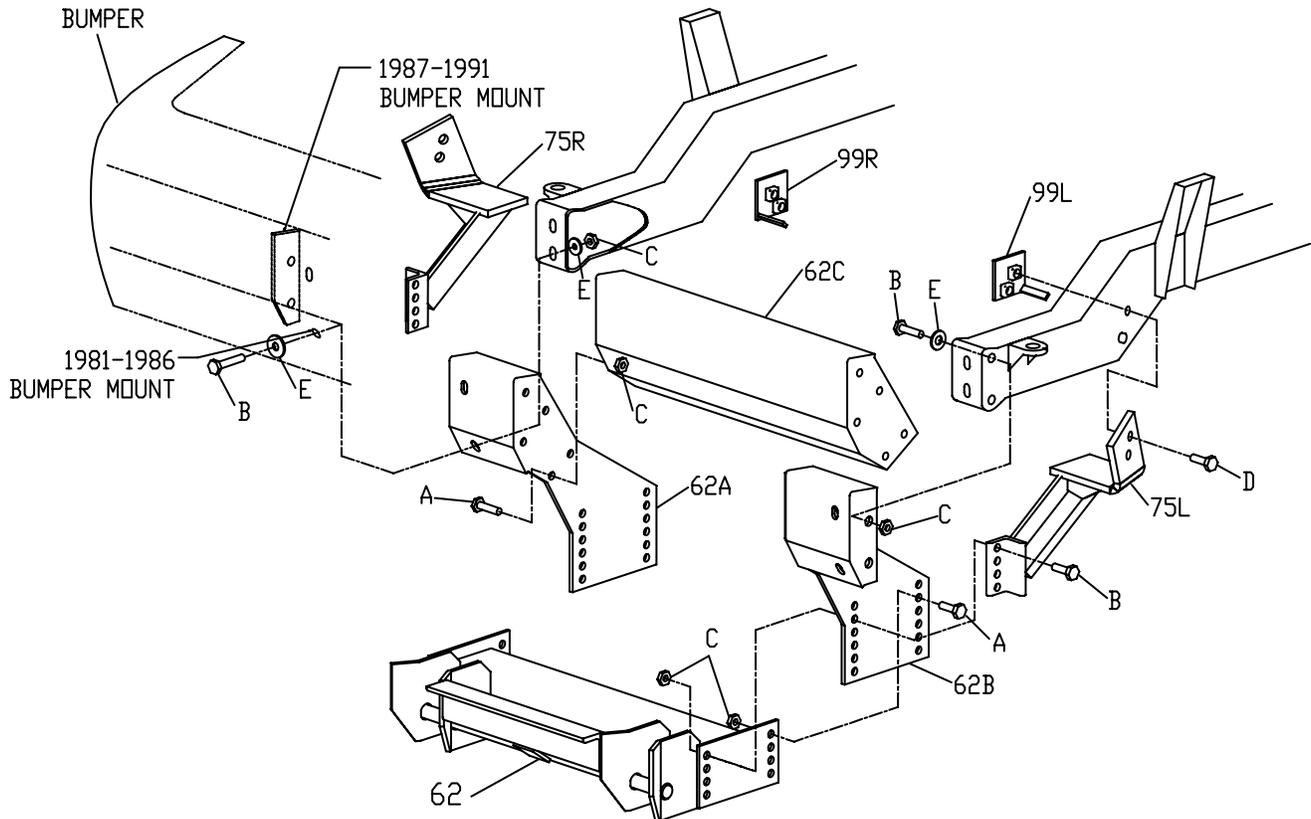

Figure 1
2. Position the PUSH BEAM SUPPORT PLATES (Ref. 62A and 62B, Fig. 1) on the frame horn.
Insert a ½" – 13 x 2" HEX HEAD BOLT with ½" FLAT WASHER through the lower front hole of the PUSH BEAM SUPPORT PLATE and frame. Install a ½" FLAT WASHER and ½" – 13 HEX HEAD SELF LOCKING NUT. Repeat using the left hand PUSH BEAM SUPPORT PLATE (Ref. 62B, Fig. 1). Position the bumper over the outside of the PUSH BEAM SUPPORT PLATES. With a ½" – 13 x 2" HEX HEAD BOLT, ½" FLAT WASHER, and ½" – 13 HEX HEAD SELF LOCKING NUT, attach the bumper and PUSH BEAM SUPPORT PLATE to the side of the frame as shown in Figure 1.
frame as shown in Figure 1. Position the bumper over the PUSH BEAM SUPPORT PLATE and attach to the front of the frame using ½" – 13 x 2" HEX HEAD BOLTS, ½" FLAT WASHER and ½" – 13 HEX HEAD SELF LOCKING NUTS as shown in Figure 1.
3. Attach the CROSS MEMBER WELDMENT (Ref. 62C, Fig.1) to the PUSH BEAM SUPPORT PLATES using ½" – 13 x 1- ½" HEX HEAD BOLTS, and ½" – 13 HEX HEAD SELF LOCKING NUTS.
4. Position the PUSH BEAM (Ref. 52, Fig. 1) between the PUSH BEAM SUPPORT PLATES. Use ½" – 13 x 1- ½" HEX HEAD BOLTS for the rear attachment of the PUSH BEAM and PUSH BEAM SUPPORT PLATES.
5. Position the ANGLE BRACKET (RH) (Ref. 75R, Fig. 1) between the frame rail and PUSH BEAM SUPPORT PLATE. Bolt the ANGLE BRACKET to the front of the PUSH BEAM and the PUSH BEAM SUPPORT PLATE. Bolt in place using ½" – 13 x 2" HEX HEAD BOLTS and SELF LOCKING NUTS.
6. Push the frame end of the ANGLE BRACKET tightly against the frame, then drill two 11/16 holes into the frame using the ANGLE BRACKET as a template to locate the holes. Bolt the ANGLE BRACKET to the frame using 5/8" – 11 x 2" HEX HEAD BOLTS, and NUT PLATE (Ref. 99R, 99L, Fig. 1) provided.